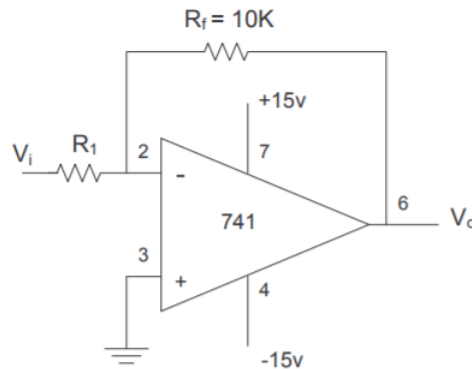

Figure 3-4 Inverting Amplifier
1. Referring to Figure 3-4, develop a formula that will give the voltage gain, V_o/V_i , in terms of R_1 and the feedback resistance, R_f . Assume the voltage difference between pins 2 and 3 to be zero, and that the current flowing into these pins is also zero.